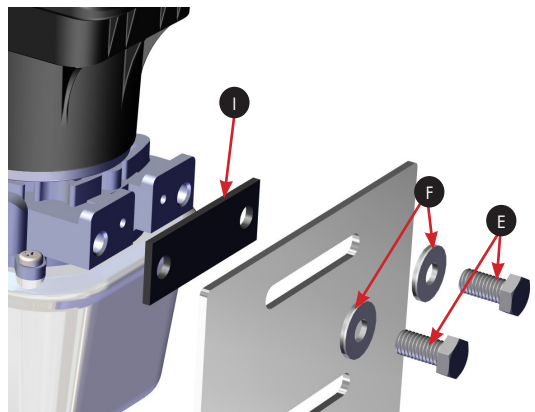

Figure 3
**NOTE:** Be sure to allow enough clearance surrounding the HPU to install the (2) 3/8" x 3/4" bolts **E** through the mounting bracket and into the HPU. **FIG. 3**
6. Once the bracket is securely fastened, use a 9/16" wrench to attach the HPU to its bracket using the (2) 3/8" x 3/4" bolts **E**, (2) 3/8" neo-bond washers **F**, and (1) rubber pump gasket **I**. **FIG. 3**
9. Install the (2) ring terminal connectors **J** using wire strippers and wire terminal crimpers.
10. Heat the (2) ring terminal connectors **J** with a heat gun until their respective jackets shrink completely and adhere to the wires.